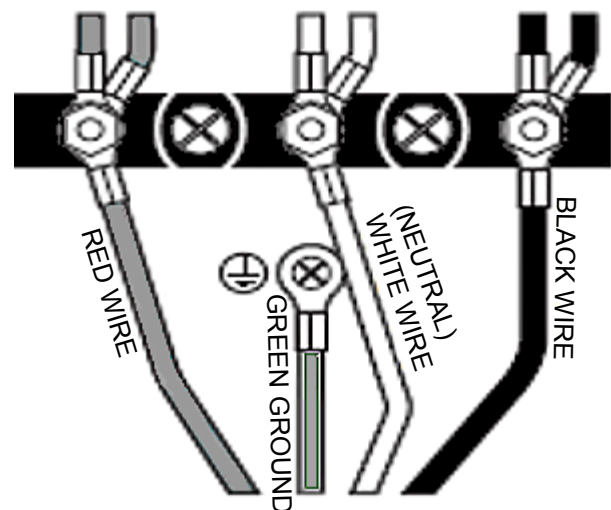

Figure 17: 4-Wire Connection
3. Secure the neutral, grounded wire of the supply circuit, to the center stud of the terminal block with nut (see *Figure 17*).